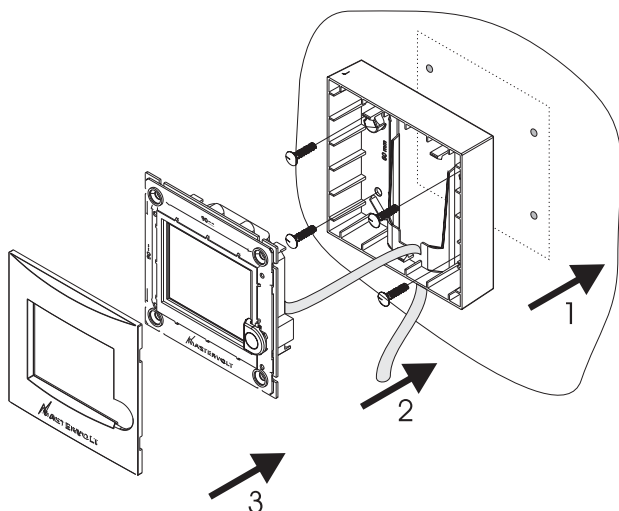

Figure 4
- Panel mounting (see figure 4):
- Drill the holes using the dimensions at the back of the front plate and fasten the outer housing (1).
- Click the panel into the outer housing (2).
- Re-attach the front (3).